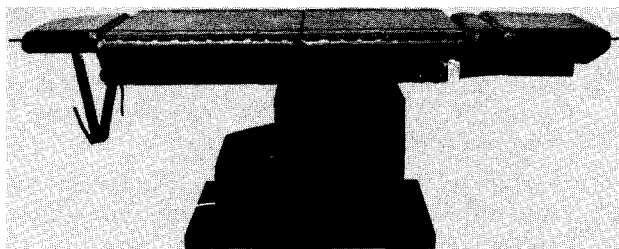

Fig. 19
- 19) Run table back all the way down. Table should be level as shown in Fig. 19. If the back section sags down then adjust clevis out. If the back section tilts upward, then adjust clevis in. This is done by using the wrenching flats on the cylinder rod next to the clevis with a 3/8" open end wrench. The rod will turn easiest when it is extended to about half of total extension.
- 11) Connect power cord and run table tilt all the way down. Table should be level as shown in Fig. 19. If table is not level, the cylinder rod must be adjusted. This is done by using the wrenching flats on the cylinder rod next to the clevis using a 3/8" open end wrench. The rod will turn easiest when it is extended about half of its total extension.
- 11) Connect power cord and run foot cylinder all the way up. Table should be level as shown in Fig. 19. If table is not level, the cylinder rod must be adjusted. This is done by using the wrenching flats on the cylinder rod next to the clevis using a 3/8" open end wrench. The rod will turn easiest when it is extended about half of its total extension.